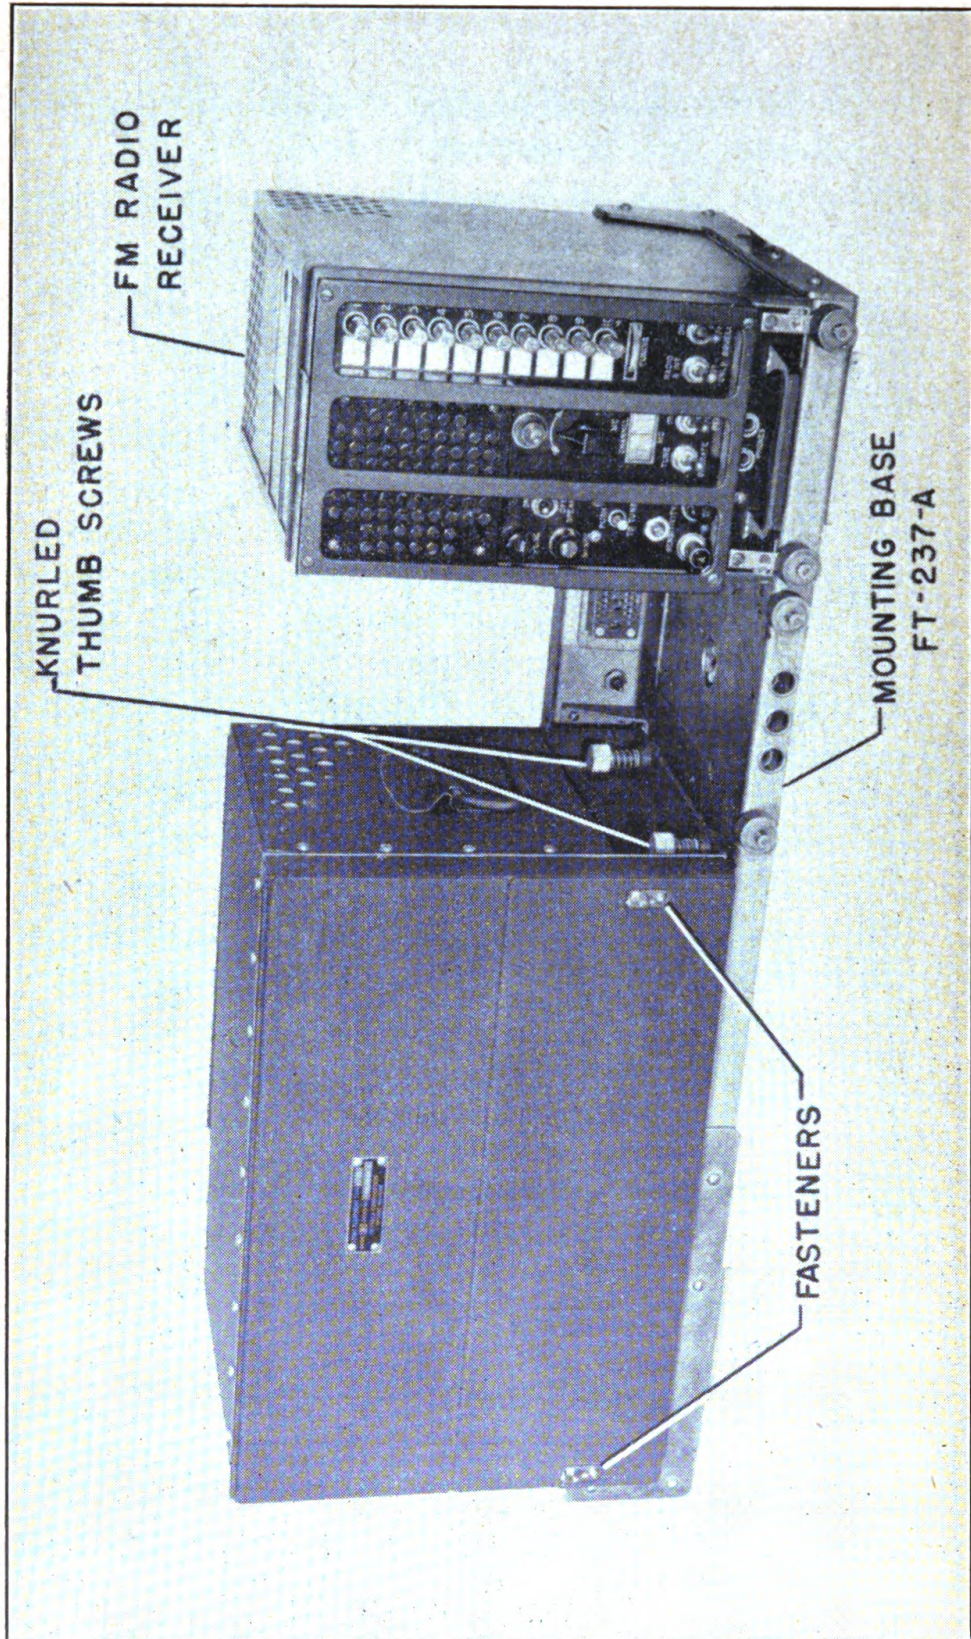

Figure 1—Signal Generator I-208 on Mounting FT-237-A
Signal Generator I-208 is a frequency and voltage standard for testing frequency modulation radio equipment. It is used in the calibration, alignment, and determination of sensitivity of frequency modulation radio receivers. The signal generator may be installed on Mounting FT-237-(*) for use in mobile units or for field use (figure 1).
a. When the signal generator is installed on Mounting FT-237-(*), make the 12-volt, d-c input connections to the power receptacle by sliding the signal generator to the left as far as it will go and tightening the knurled thumb screws at the lower right of the signal generator (figure 1). Some Mountings FT-237-(*) have plug covers installed on the left side of the rear rail. These covers must be removed before placing the signal generator on the mounting base.